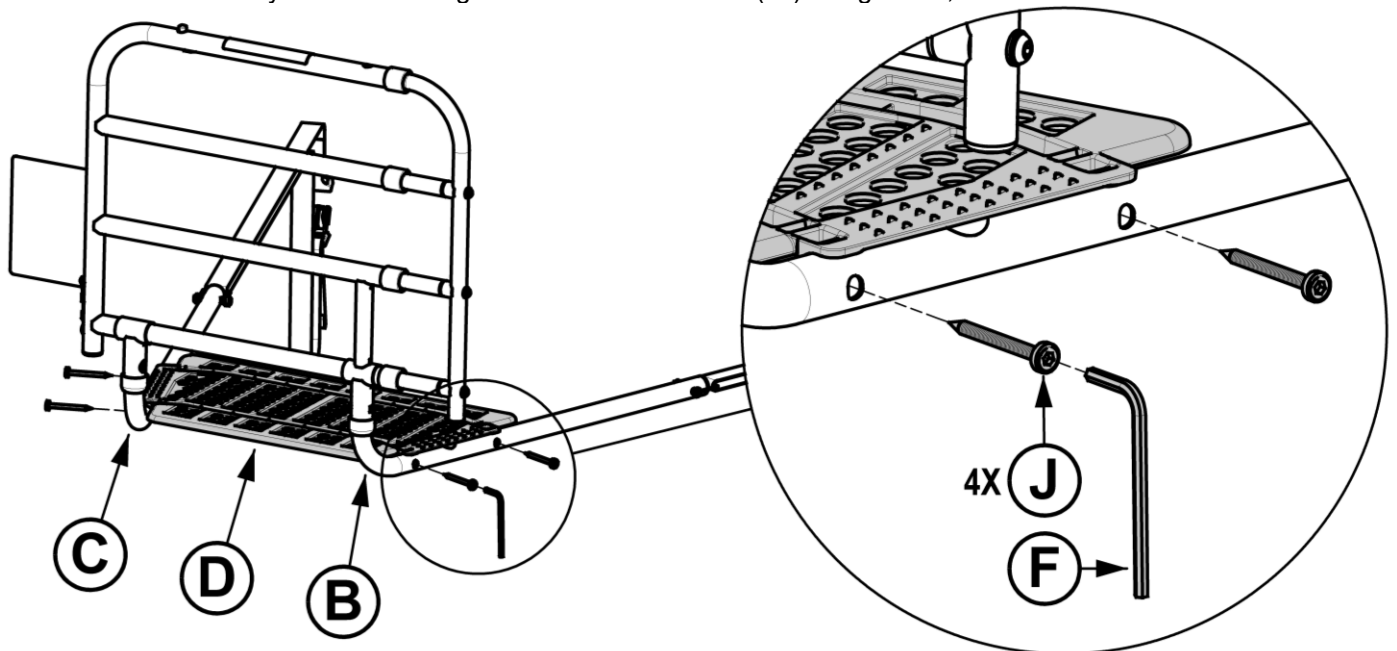

FIGURE 4
4. Secure Safety Guard **D** to Legs **B** and **C** with Screw **J** (4x) using tool **F**, as shown in *FIGURE 4*.